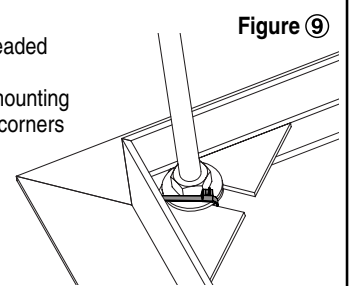

Figure 9
- 2 Wrap a plastic wire tie around the mounting tab and the threaded rod at all four corners of the closure panel (Fig 9).